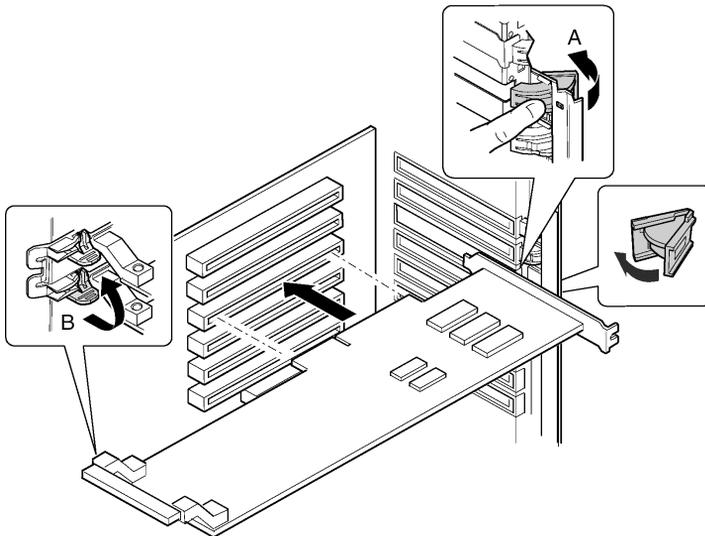

Figure 36 - Installing a hot-plug PCI add-in board
- 3 Open the latches on the front and rear retention mechanisms (Figure 36, A and B).